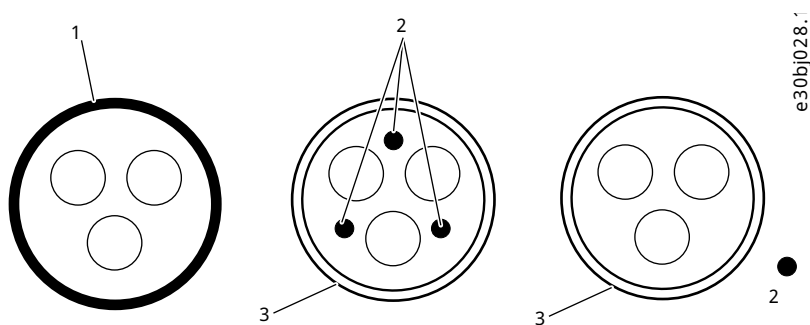
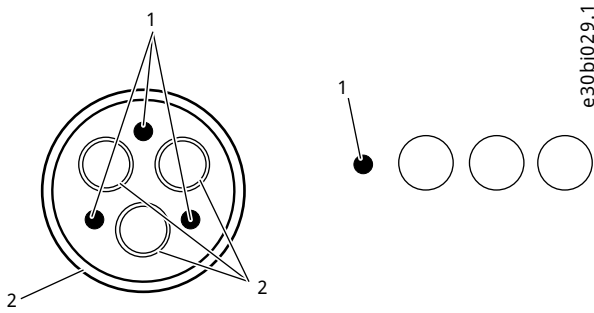

Figure 59: Recommended Cable Types for Mains and Motor Cabling
Figure 60: Not Recommended Motor Cable Types
**Only use symmetrical and shielded 3-phase motor cables.** See Figure 59. Do not use symmetrical and shielded 3-phase cable with individual shield for each phase conductor or single-core phase conductors and PE with or without shield, see Figure 60.